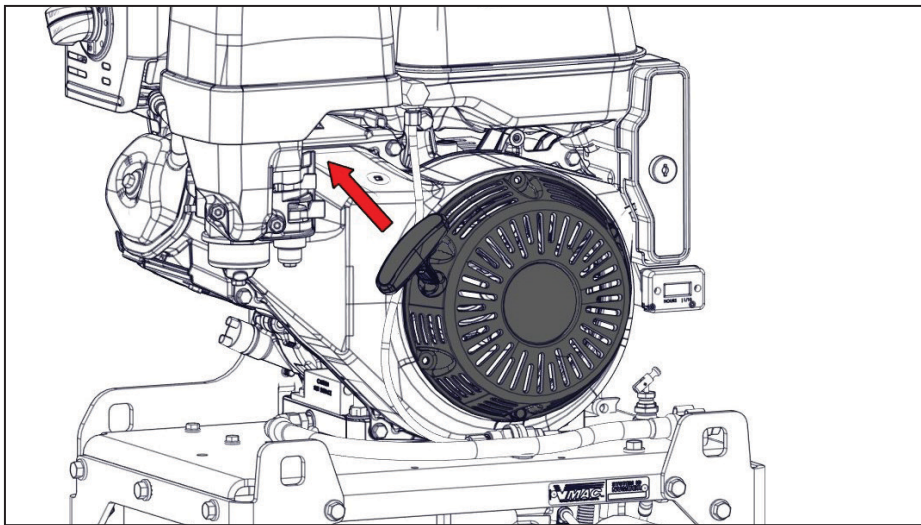

Figure 18 — Recoil starter
6) Pull the starter grip lightly until resistance is felt, then pull briskly in the direction of the arrow. Return the starter grip gently to prevent damage to the starter (Figure 18).